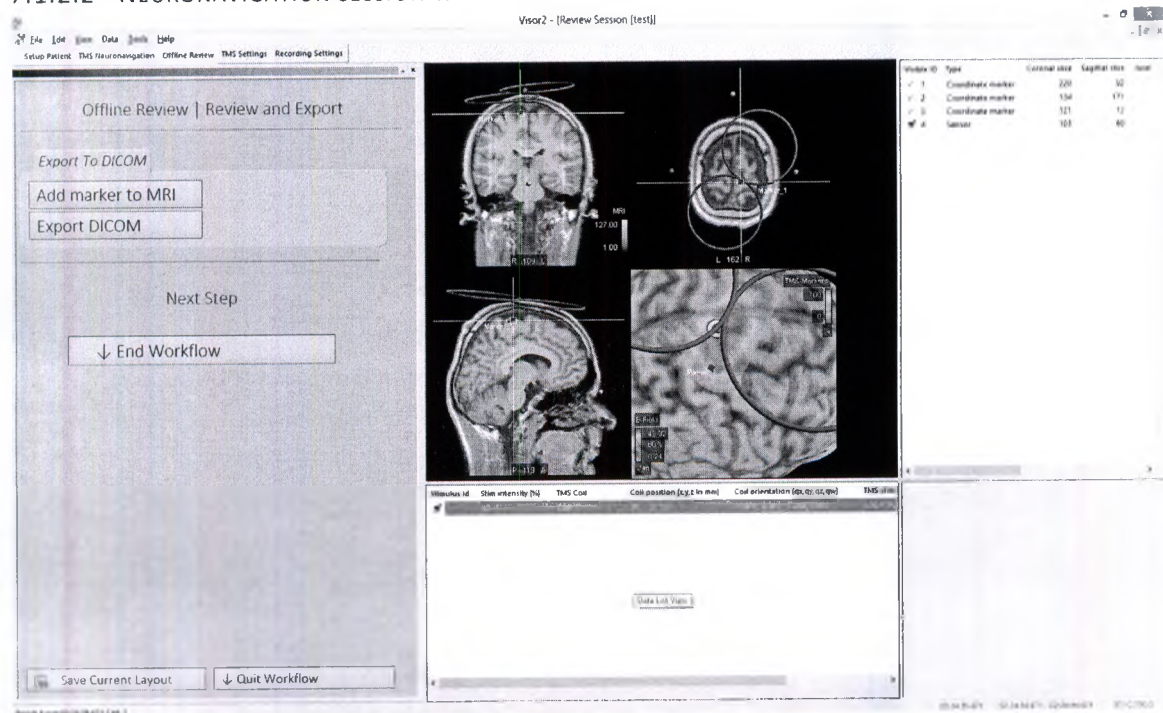

FIGURE 53: OFFLINE REVIEW FOR NEURONAVIGATION SESSION WITHOUT EMG
If a TMS session without EMG is reviewed, the view simplifies to display the stimuli with the stimulator output intensities, see Figure 53. The TMS Stimulus list presents:
1. Position the crosshair at the location where you wish your image marker to be placed. If you want to place the image marker over a TMS Marker, select the TMS Marker in the sensor, TMS stimuli or TMS response list view. The position of the crosshair will be adjusted according to your selection, as displayed in Figure 53.